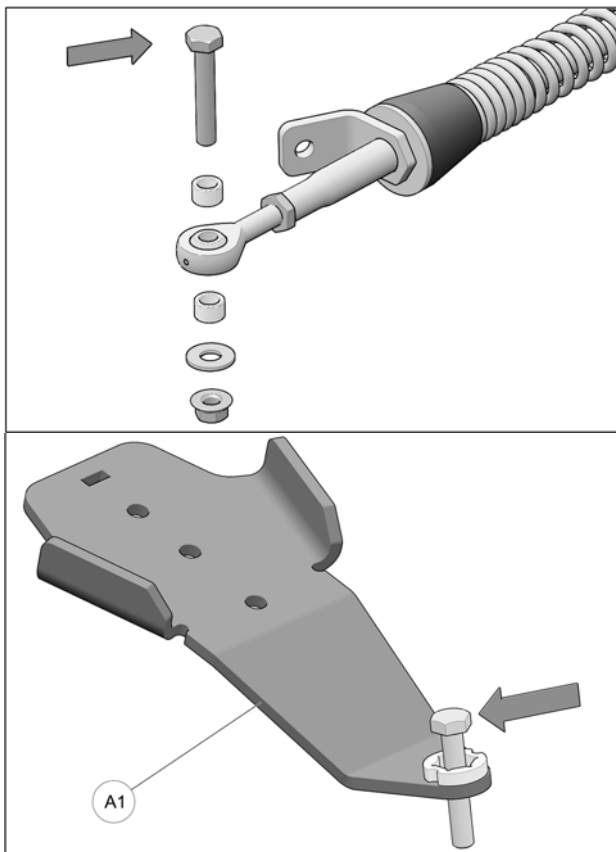

Fig. 14
4. Remove bolt, washer and bushings from front stabilizing rod end and insert bolt in front anchor bracket (A1) as shown in Fig. 14